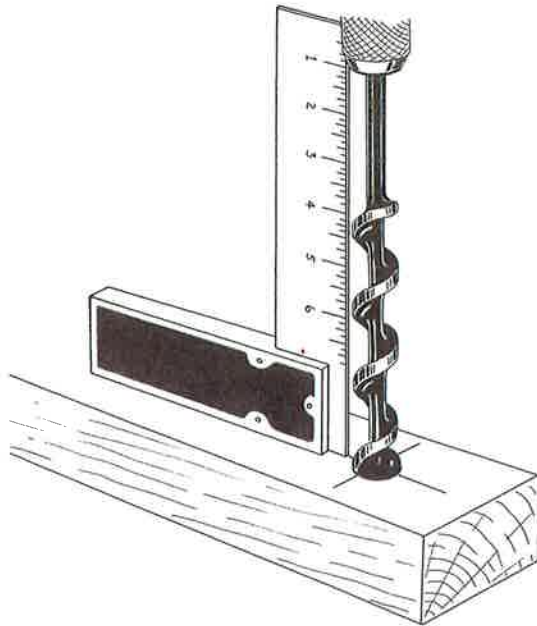

Fig. 18-24. Testing the boring for accuracy.
6. Place a try square on the wood and against the bit. This is to make certain that the hole is being bored at right angles to the surface of the work (Fig. 18-24).